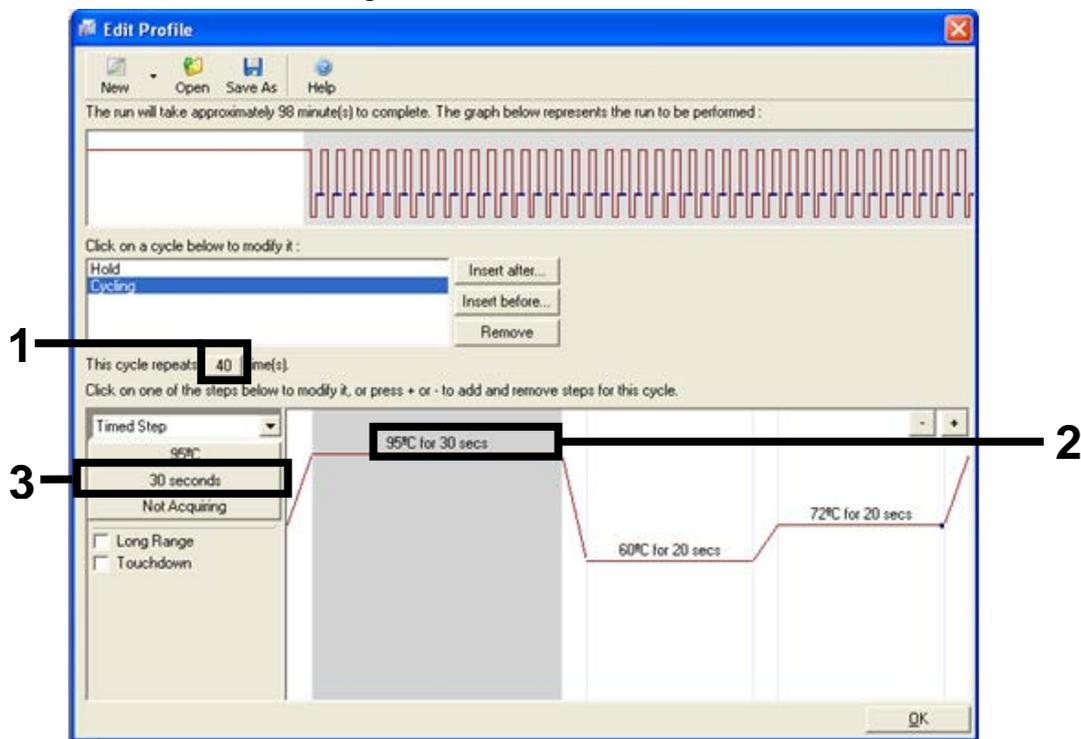

Figure 25. Cycling step at 95°C (1 = "Cycle repeats" box; 2 = Step one: temperature setting; 3 = Step one: time setting).
- Change the number of cycle repeats to 40. Select the first step and set to 95°C for 30 secs (Figure 25).